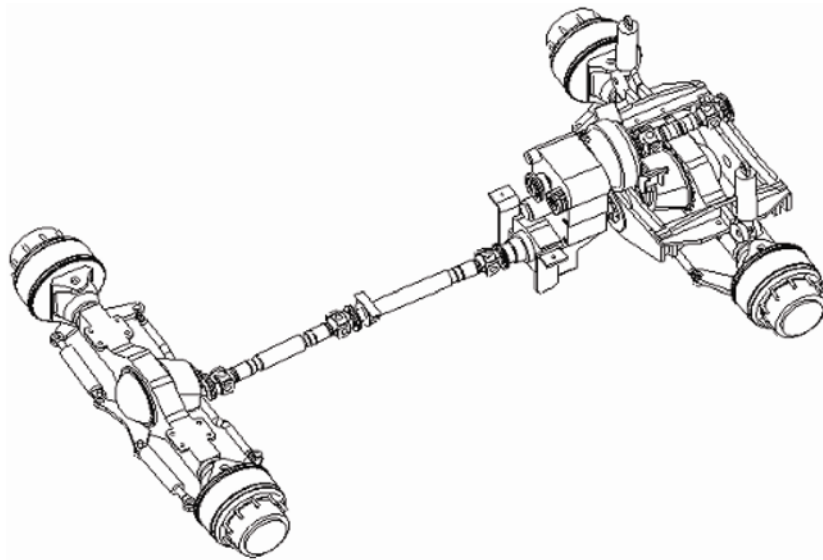

Figure 1-11 Front and Rear Axles
- (1) Do a check of the level of oil in the transmission.
- (2) Do a check of the gear oil level in the front and rear axles. Refer to Figure 1-11.